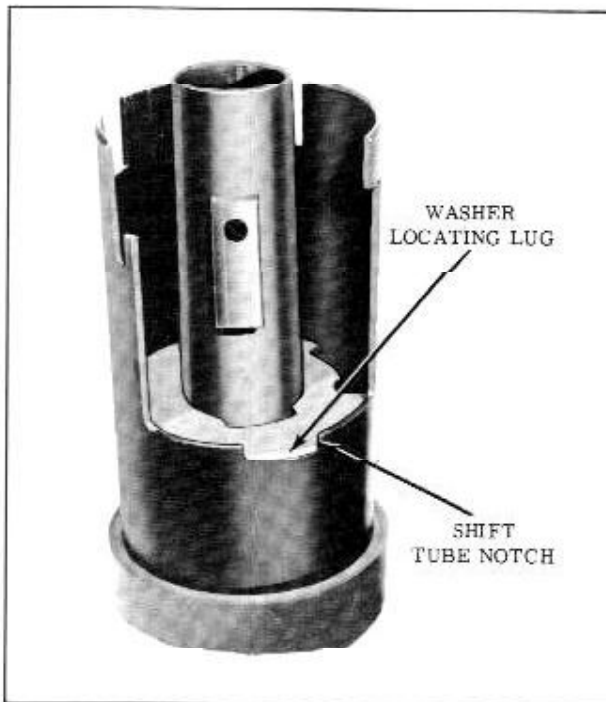

Fig. 4-22 Upper Shift Tube Washer
12. Position the upper shift tube washer over the shift tube and inside the mast jacket with the locating lug and notch aligned. (Fig. 4-22)